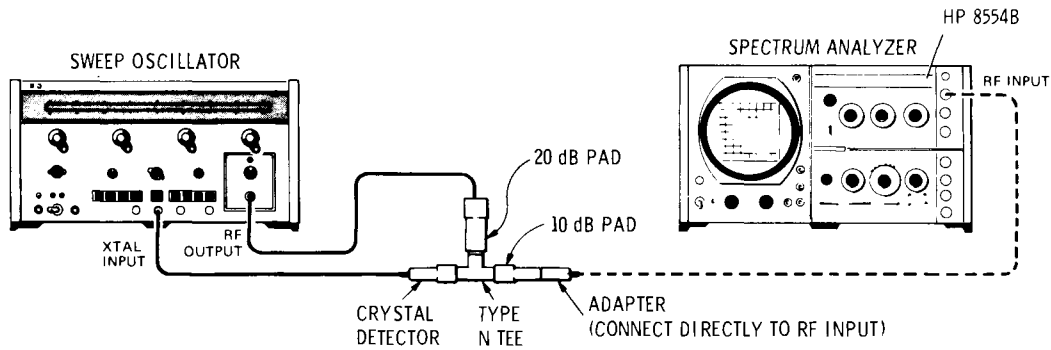

Figure 4-3. Frequency Response Test: 100 - 1250 MHz
- To check the analyzer's frequency response from 100 MHz to 1250 MHz, connect the test setup shown in Figure 4-3. Make the following control settings: